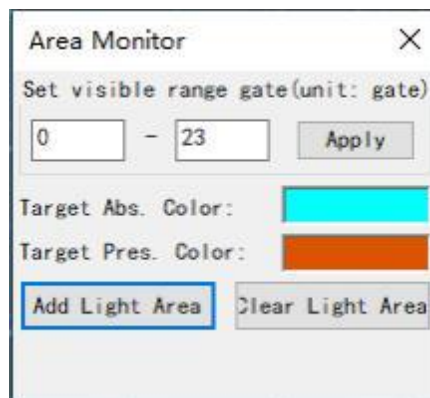

Figure 4-6 "Area Monitoring" Setting Interface
Step 2: Click the "Area Monitoring" button to display the interface shown in Figure 4-6. The functions of each part of the interface are described as follows: